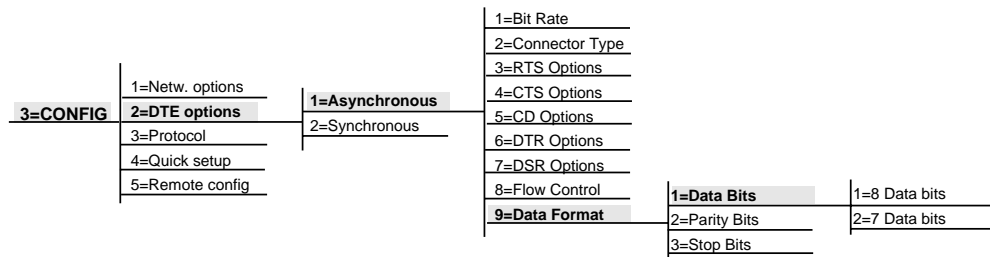

Figure 6-7
V.25 bis specifies that the characters should be ASCII, 7 bits, even parity and one stop bit. However, for versatility the ISU 128 allows the data, parity, and stop bits as defined under **Data bits**. (See Figure 6-7.)